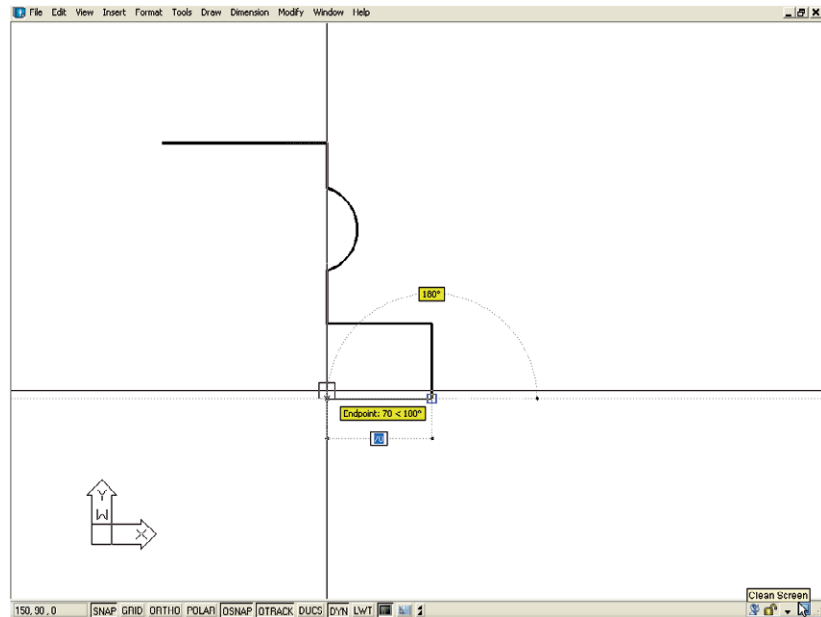

Fig. 3.20 Example – Polyline Edit
1. A *click* on the **Clean Screen** icon in the bottom right-hand corner of the AutoCAD 2007 window produces an uncluttered workspace area with only the menu bar (Fig. 3.20). The command palette can also